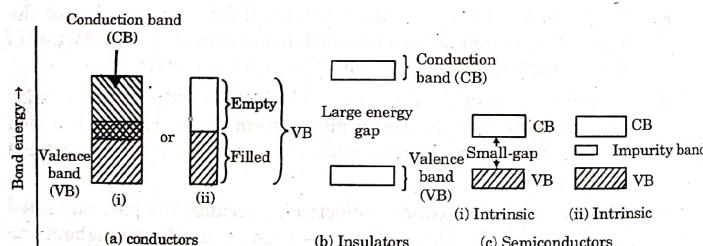

Fig. 1.15.1. Energy band in (A) Conductors
- d. As can be seen in the Fig. 1.15.1(A), electrons can easily (i.e., with very little energy input) be promoted from filled orbitals in the band to unfilled orbitals in the band, and hence move throughout the metal solid.
- b. Intrinsic semiconductors (like Si or Ge) are having small energy gap between the filled valence band (VB) and empty conduction band (CB) as shown in Fig. 1.15.1, sufficient to promote an electron from VB to CB.
- f. Doping means treatment of Si and Ge (typically semiconductors) with impurity atoms of Group (III) and Group (V) giving respectively *p*-type and *n*-type extrinsic semiconductors.